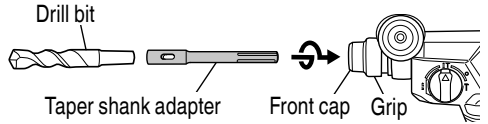
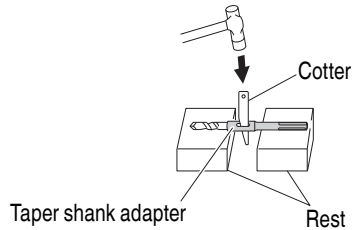

Fig. 27
Fig. 28
- (1) Mount the taper shank adapter to the rotary hammer (Fig. 27).
(2) Mount the drill bit (taper shank) to the taper shank adapter (Fig. 27).
(3) Turn the switch ON, and drill a hole in prescribed depth.
- (4) To remove the drill bit (taper shank), insert the cotter into the slot of the taper shank adapter and strike the head of the cotter with a hammer supporting on the rests (Fig. 28).